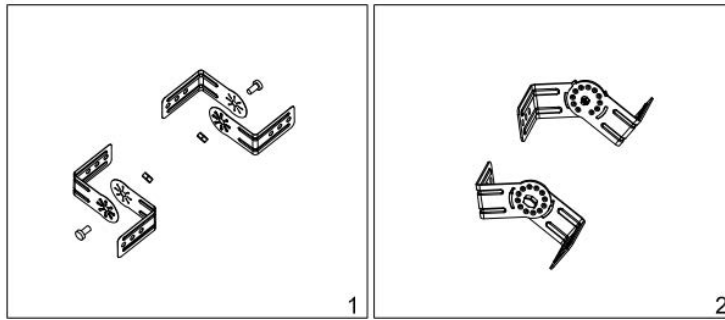

Figure 4 | Fastening together the brackets
2. Fasten the brackets (A) together using the M6x12 screws (F), washers (E) and wing nuts (D). (See **Figure 4**)